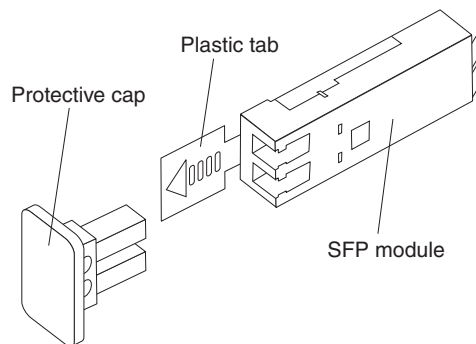

Figure 16. Small Form-Factor Pluggable (SFP) module
2. Remove the protective cap from the SFP module, as shown in Figure 16. Save the protective cap for future use.
2. If necessary, remove the protective cap from the SFP module, as shown in Figure 16 on page 22. Save the protective cap for future use.